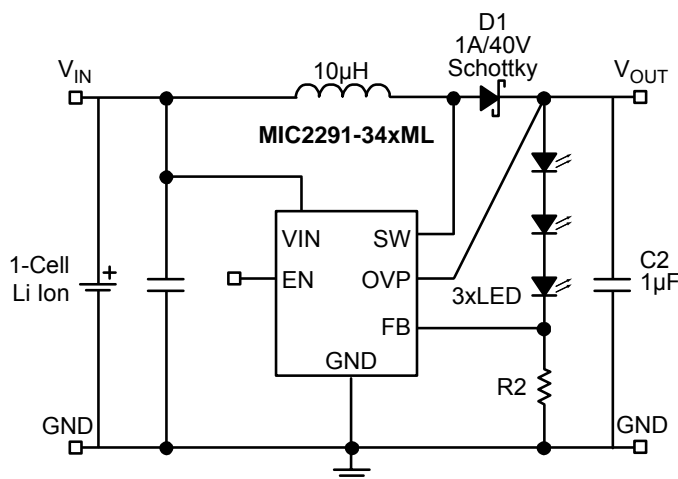

Figure 2. DC to DC PWM Boost Conversion
2. Continuous dimming control is implemented by applying a DC control voltage to the FB pin of the MIC2291 through a series resistor as shown in Figure 2. The LED intensity (current) can be dynamically varied applying a DC voltage to the FB pin. The DC voltage can come from a DAC signal, or a filtered PWM signal. The advantage of this approach is that a high frequency PWM signal (>10kHz) can be used to control LED intensity.